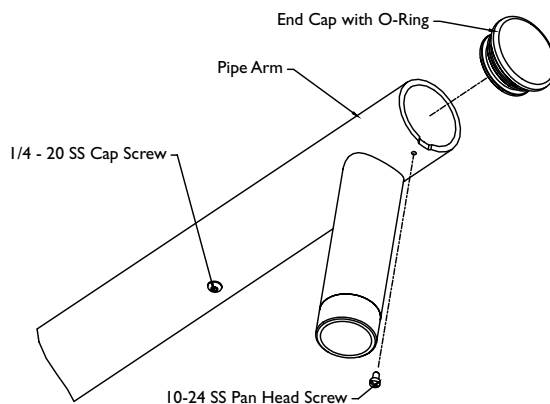

Figure 1: LTC 9230 with End Cap removed
If additional stabilization of the Parapet Mount is required or desired, it may be achieved using guy wires and a stainless steel eye bolt (not included). An attachment point for the eye bolt is provided at a threaded hole with 1/4"-20 threads. Remove the cap screw (see **Figure 1**) installed at the factory and replace it with a stainless steel eye bolt. Avoid too much tension in the guy wires so as not to increase the downward load on the Parapet Mount beyond the rated load.
- Feed all electrical and control cables through the pipe arm and out the bottom of the mounting bracket. This may be easier if the pipe arm end cap is removed (see **Figure 1**). (Note: the cables may be fed through the pipe arm just prior to step 6 if desired).